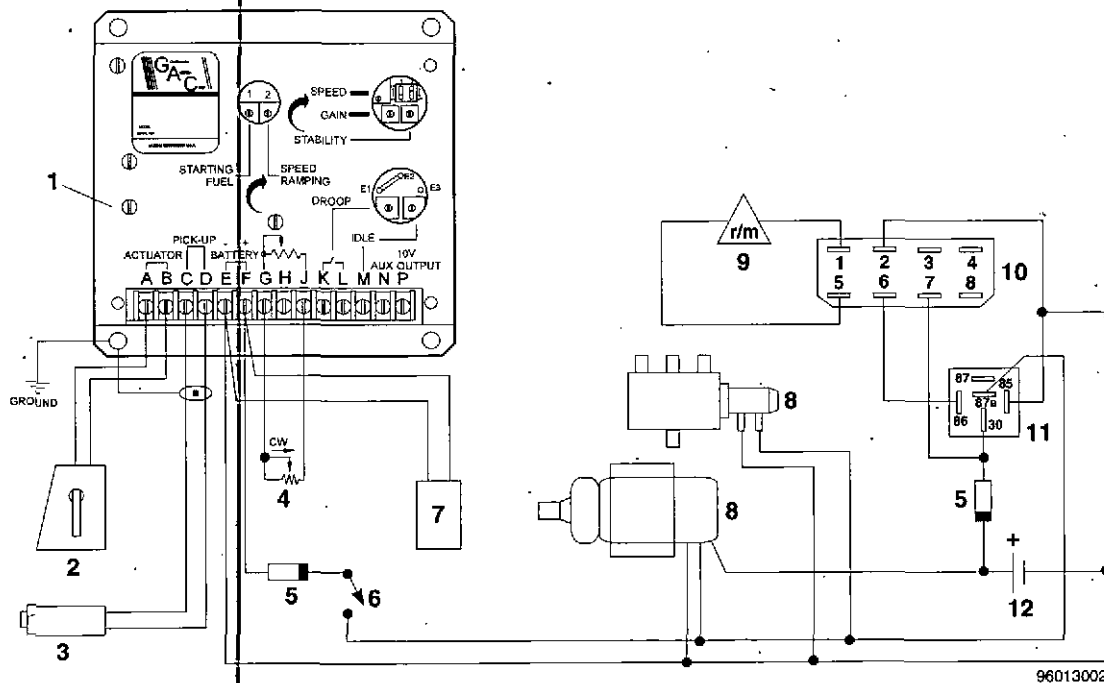

Fig. 8. Connecting the stop solenoid or fuel valve, live during operation, 24V system.
The wiring is shown in the wiring diagram, fig 8.
Connect the pickup to the control unit according to the wiring diagram (fig 8).
Provided that a fast fuse is used in the battery cable as shown in the wiring diagram fig. 8, reversed polarity will not ruin the control unit. However, other incorrect connections can cause the control unit to be ruined.
3. That the wiring is otherwise correct. See wiring diagrams figs 8, 9 and 10.